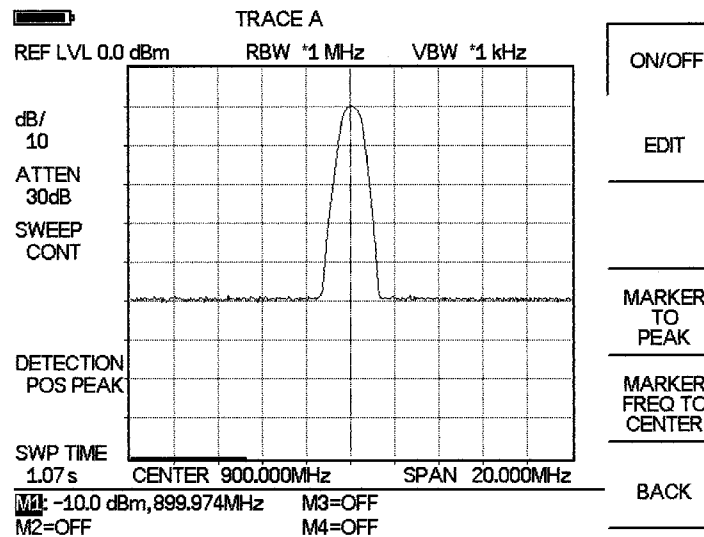

Figure 2-8. Activated Normal Marker
The marker reads both the frequency and the amplitude, and it displays these values in the message area at the bottom of the display. In this case, the marker will read 900 MHz and -10.00 dBm, as shown in Figure 2-8.
- Step 5.** Read both frequency and the amplitude values identified by the selected marker. These values are displayed in the message area at the bottom of the display (Figure 2-8).